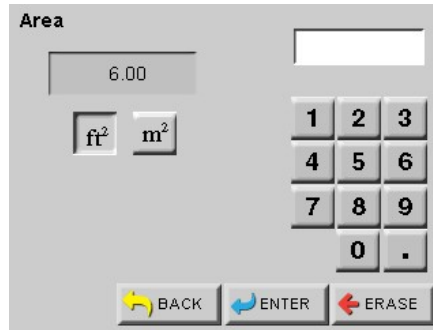

Figure 5-71 Reports Area Set Up Screen
- Press the BACK button then the AREA button to display the Area Set Up screen shown in Figure 5-71.